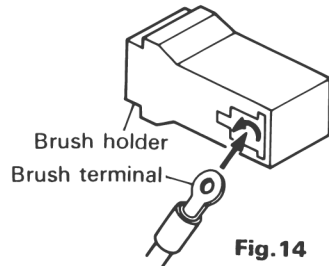

Fig. 14
- (1) Insert the brush terminal into the brush holder. Turn the brush terminal 90° (Fig. 14.)
- (2) While maintaining this brush terminal position as explained in (1), insert a new carbon brush into the brush holder.
- (3) While pressing the carbon brush against the outside wall of the housing's bearing compartment, insert the brush holder into the housing's original position.
- (4) Place the internal wire in the specified position. Be very careful not to allow the internal wire to contact the armature or rotating parts of the motor.
- (5) Replace the top cover, while being careful to ensure it does not pinch the internal wire, and secure it firmly with the two screws.